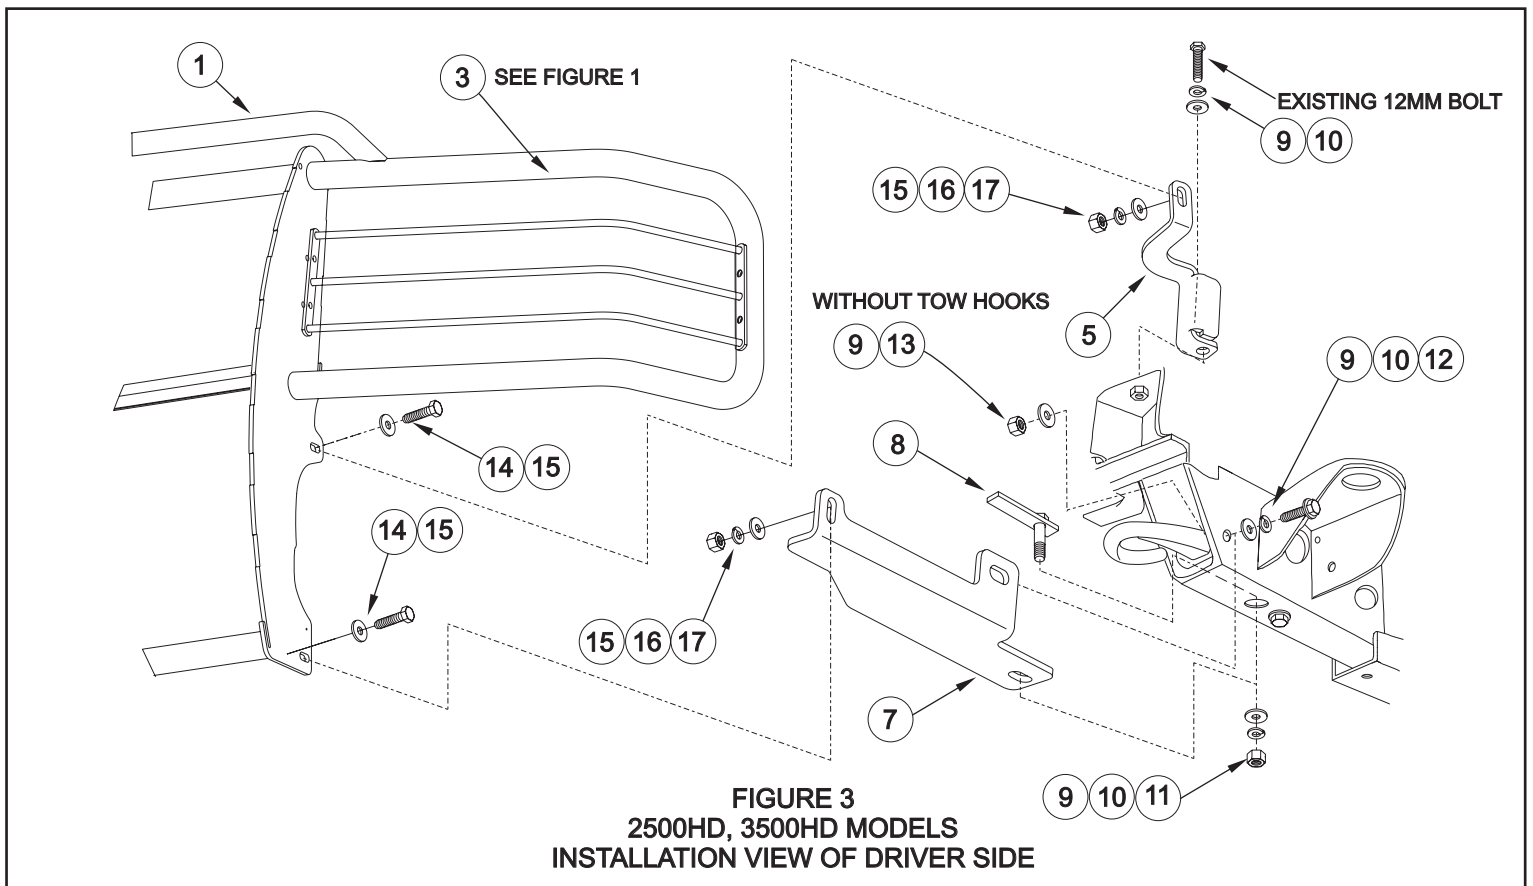

FIGURE 3
- STEP 5. Remove both 12mm factory bumper bolts from top of frame (located behind top side of bumper). Attach top brackets with the 12mm factory bumper bolts as shown. Leave loose. **SEE FIGURE 3.**
- STEP 6. From underneath vehicle, locate and remove the tow hook bolts. Slide bolt plate in from the end of frame rail and allow bolt to drop through large hole closest to end of the frame. Attach bottom brackets to bolt plate using 1/2" fasteners as shown. Reinstall the factory tow hook bolt on the inside face of frame rail. On the outside face of the frame rail replace (and discard) the tow hook bolt with the 12mm fasteners supplied. **SEE FIGURE 3.** Vehicles without tow hooks, attach bottom brackets using the M12-1.75 x 40mm hex head bolt and fasteners provided. Leave loose.